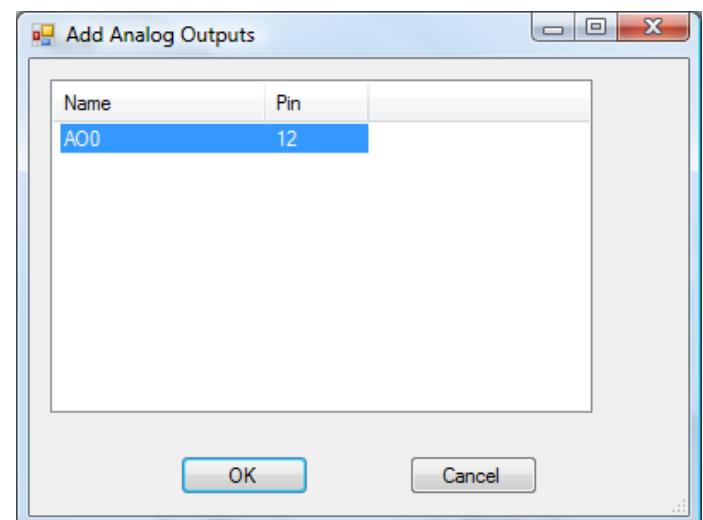

Figure 2-8- Add Analog Outputs Dialog
4. Click the **ADD OUTPUTS** button next to the Outputs pane. The *Add Analog Outputs* dialog will open. Select (highlight) the AO0 shown in the dialog and click **OK**. Refer to Figure 2-8.